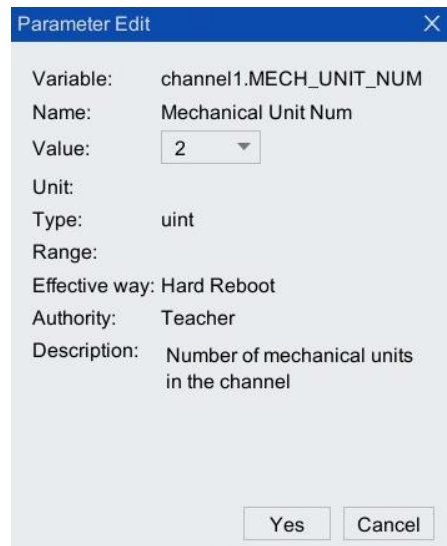

Figure 6-6 Mechanical unit quantity dialog box
- Step2. If you need to modify the configuration, click the line where the parameter [MECH_UNIT_NUM] is located, click <Edit> button, and the dialog box as shown in Figure 6-6 will pop up. The parameters in [Value] can be modified. The parameter description is shown in Table 6-3.